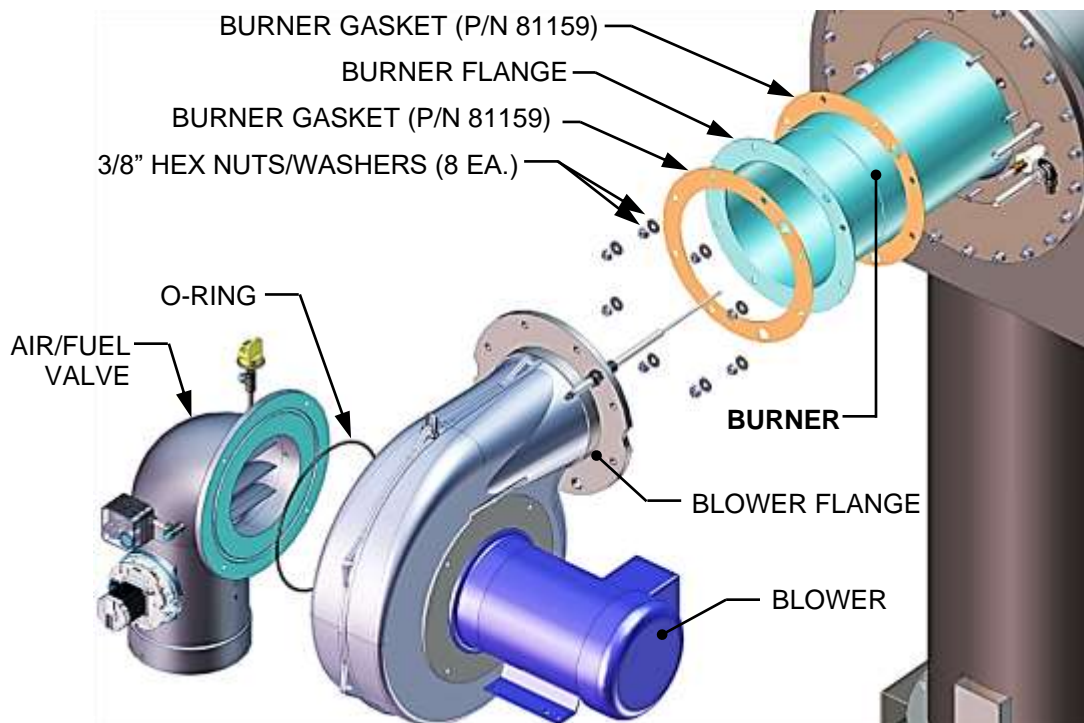

Figure 4-6: Burner Assembly – Exploded View
18. Remove the Blower from the Burner by pulling outward. Be careful not to allow it to swing and damage other equipment components. Refer to the exploded view in Figure 4-6.
22. Remove and replace the two (2) Burner Gaskets (see Figure 4-6) and clean the gasket surface on the burner front plate.
23. To reassemble, begin with the Burner assembly and reinstall all the components in the reverse order that they were removed. The Burner may have a nut installed at the base position to keep the Burner level while installing the Blower (Figure 4-6).